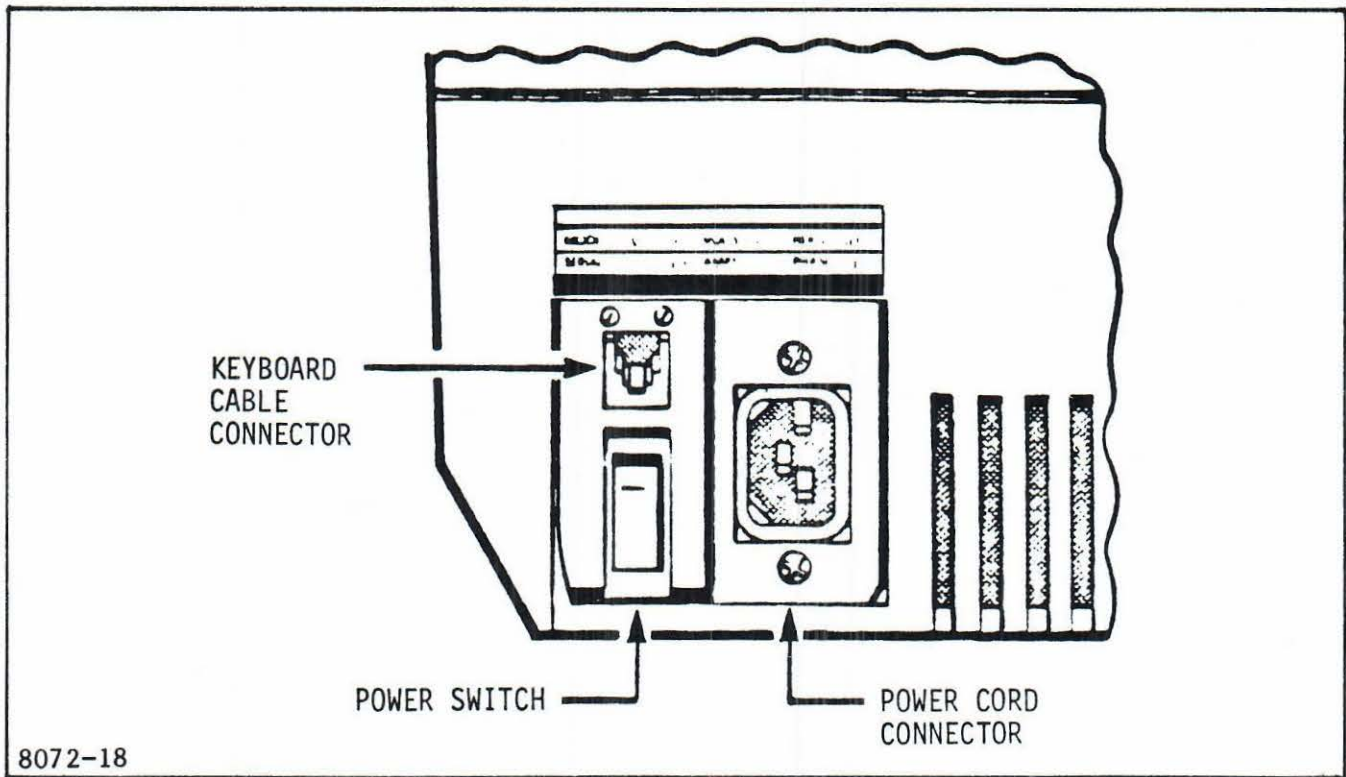

Figure 4-1. Cabinet Rear Lower Left Corner
6. Inspect the rear of the cabinet for loose or missing screws in the power cord and keyboard cable connectors (see figure 4-1). Tighten or replace them if necessary.